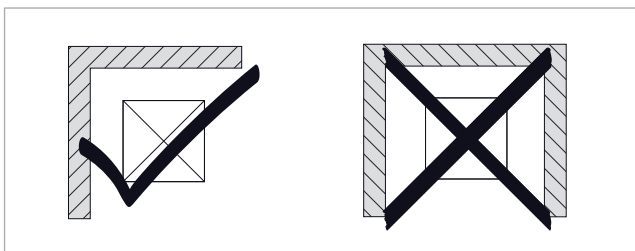

Fig. 3: Installation conditions near walls
- Do not install the heating pump in structures that are closed on three sides. See → Fig. 3